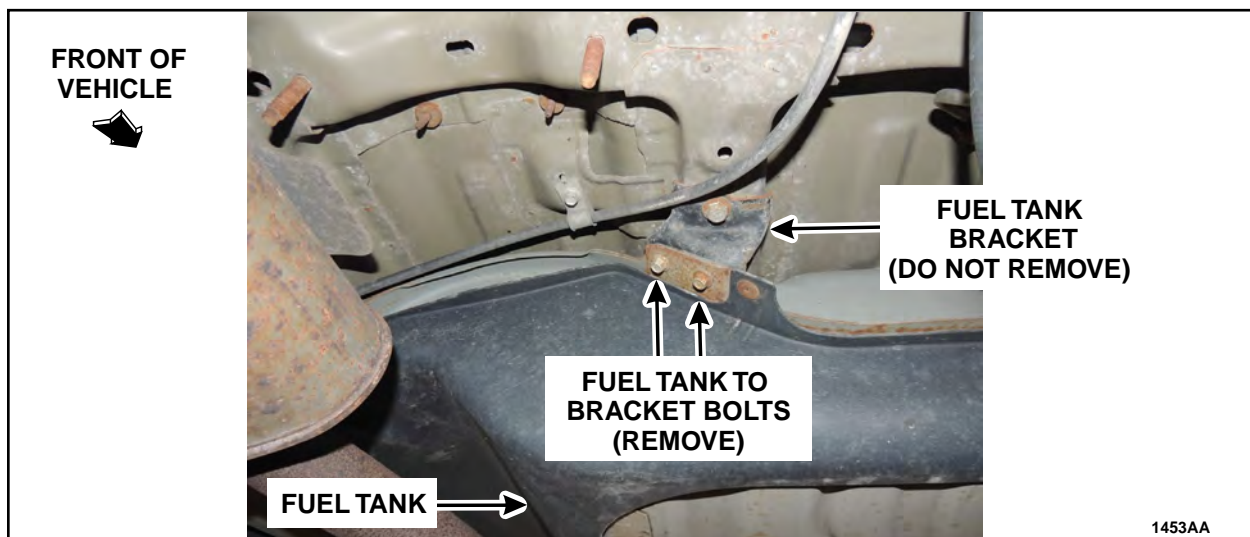

FIGURE 4
13. Remove the two (2) parking brake cable bracket bolts and position cables aside.
- a. Remove and discard two (2) bolts attaching the fuel tank to the fuel tank brackets at both the front center and rear center of the tank (four (4) bolts total). Leave the brackets attached to the vehicle. See Figure 4.
- b. Remove and discard the four (4) bolts (one at each corner) attaching the fuel tank to the body.
**NOTE:** Two (2) rear center fuel tank to bracket bolts shown, two (2) front center fuel tank to bracket bolts similar.
2. Install the four (4) *new* fuel tank bolts (one at each corner).
3. Install the four (4) *new* fuel tank to bracket bolts. See Figure 4.
4. Position the parking brake cables and install the two (2) parking brake cable bracket bolts.